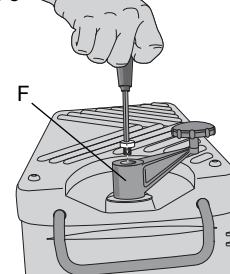

FIG. 6
To turn the planer on, lift up the switch (G). The planer locks on automatically. To turn the tool off, press the switch down. A hole (H) is provided on the underside of the switch to insert a padlock to lock off the planer as shown in Figure 6.